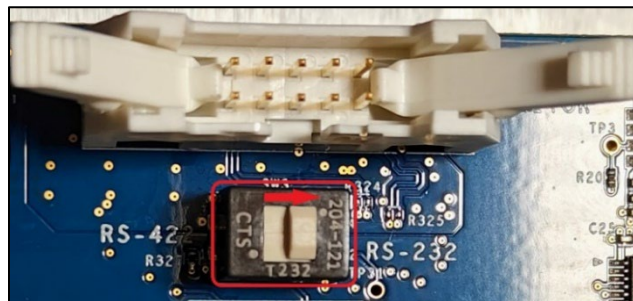

Figure 3 EAPro Connector
- b. If FMLive, connect the 10-pin 191F0234-10 cable to the gray Tank Monitor connector at the top of the EAPro (Figure 3). Ensure the slider below the connector is to the right.